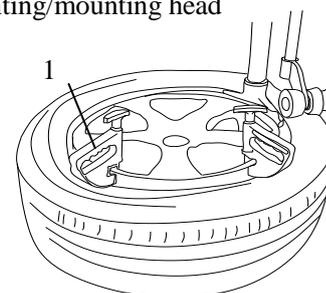

Fig12
2. Make tyre top bead upon rear of demounting/mounting head and below front of demounting/mounting head, move right pressing arm and make sure it is locked, pull handle D down to make roller C,G to press top bead to position below demounting/mounting head, rotate turntable, finish tyre mounting .(Fig 12)